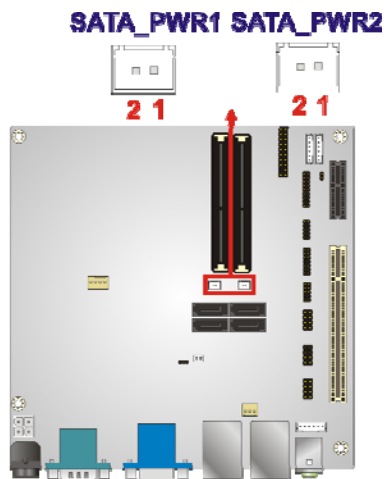

Figure 3-16: SATA Power Connector Locations
- CN Location:** See **Figure 3-16**
CN Location: See Figure 3-16